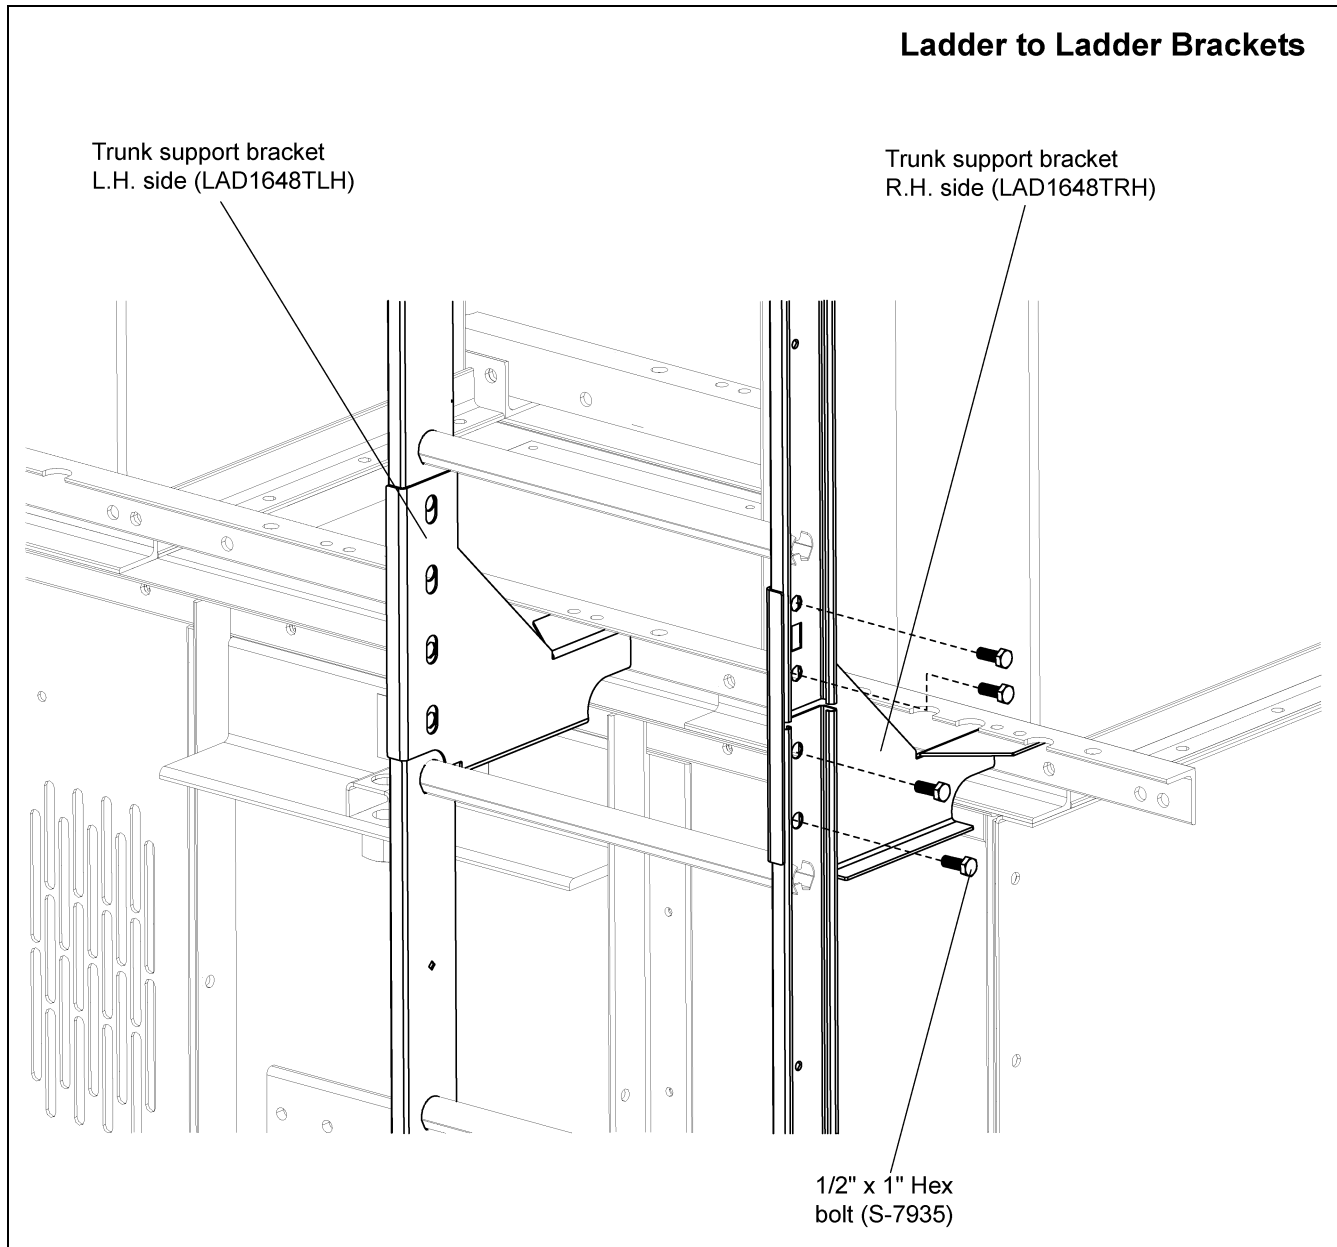

Figure 6F
3. Attach the next ladder section to the ladder brackets using 1/2" x 1" hex bolts through the top set of holes. (See Figure 6F.)